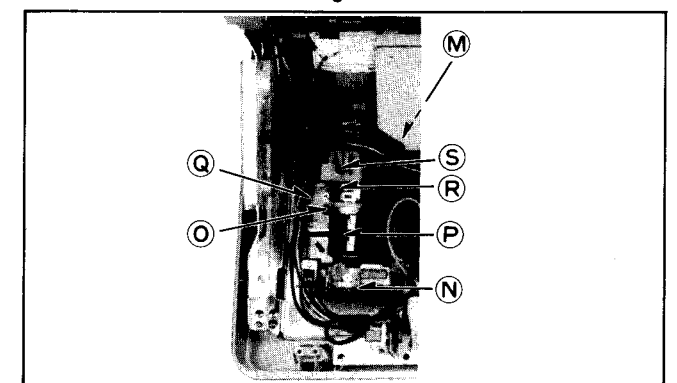

Fig. 13
- 3) Remove the anode lead (M) from the high voltage distributor shown in fig. 13.
- 4) Remove the LR printed circuit board (N) in fig. 13.
- 5) Remove the retaining screw of the neck shield (O) and remove the neck shield (P) in fig. 13.
- 6) Remove the retaining screw of the deflecting coil (Q) and draw out the centering magnet (R) and the diflecting coil (S) in fig. 13.